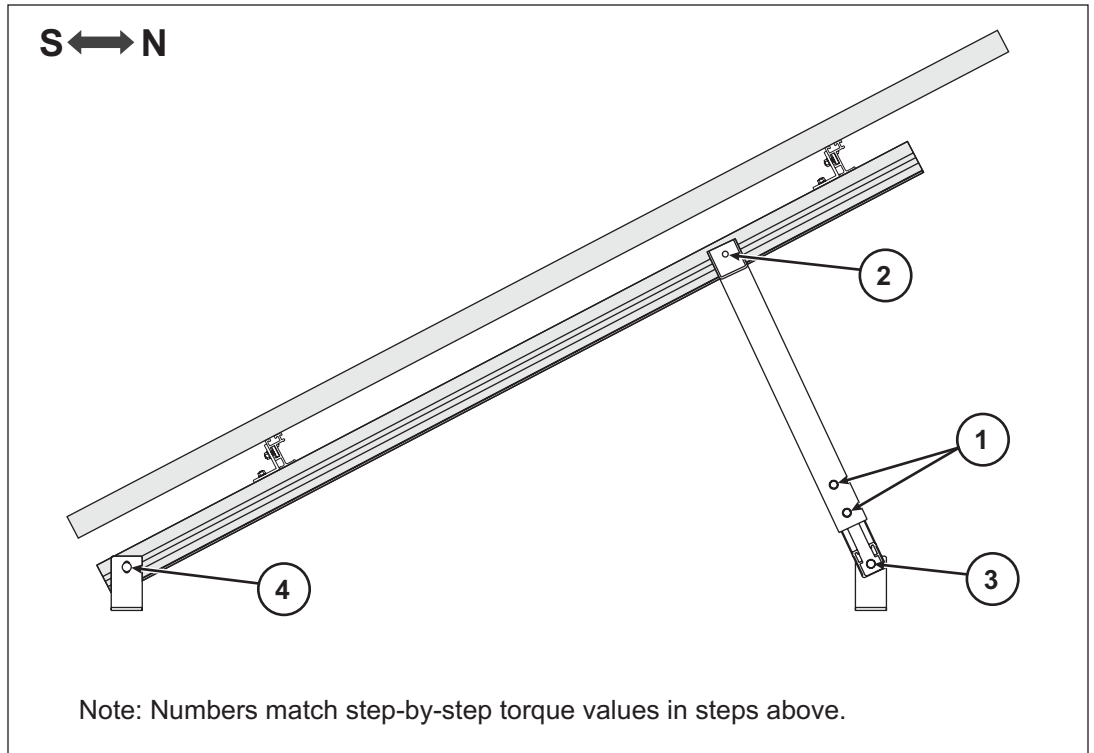

Figure 10-2: Re-tighten and Torque Hardware
- E. Re-tighten and torque hardware as follows (See Figure 10-2):